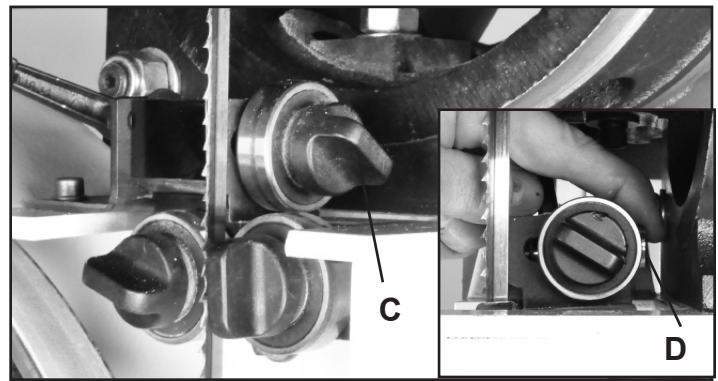

FIGURE 27 NOTE: Blade Guard removed for photo purposes
4. Adjust the rear bearing guide to be just clear of the back of the saw blade. Release the guide's Locking Handle (Fig. 27, C) and move the rear guide towards the blade by pushing the end of the Rear Guide Shaft (#45A, D), or use the lock handle to pull the guide towards the blade. Tighten the handle when done.